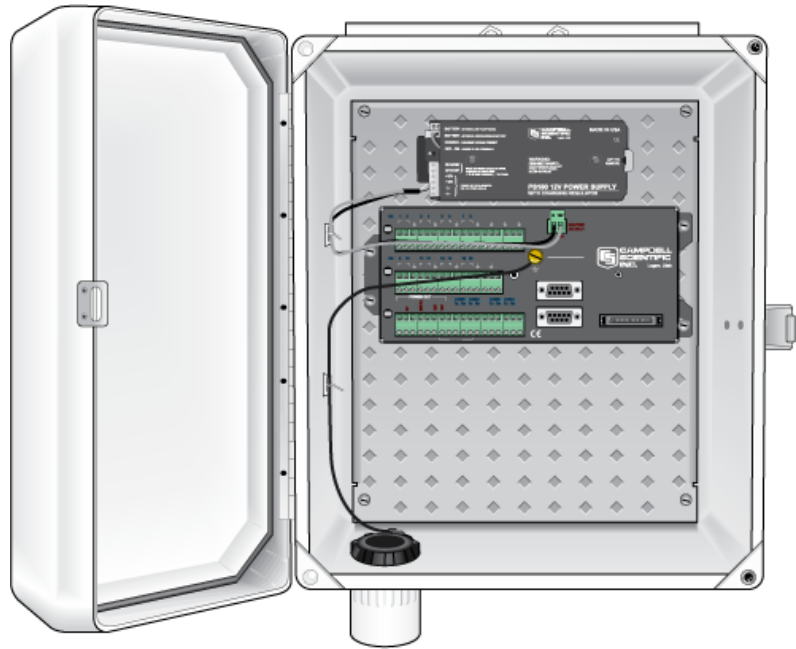

FIGURE 3.1-4. CR1000 and PS100 Mounted to an Enclosure Backplate
The datalogger includes hardware for mounting it to an enclosure backplate (see Figure 3.1-4). Either a BPALK or PS100 power supply is also typically housed in the enclosure if a CR800, CR850, or CR1000 is used. These power supplies also include hardware for mounting them to an enclosure backplate (see Figure 3.1-4).
3. An AC transformer or unregulated solar panel (Section 3.1-5) should be connected to the PS100 at all times. Connect the lead wires from the transformer or solar panel without regard to polarity to the two terminals labeled "CHG" (Figure 3.1-4); the red LED should light when voltage is present.